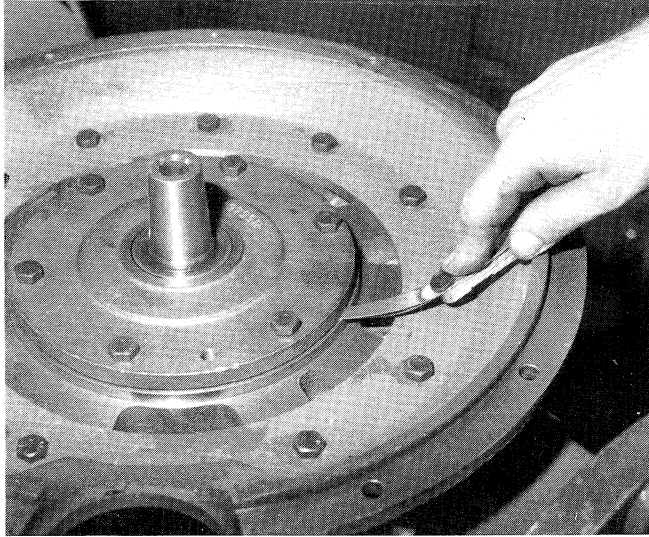

Figure 9-6. Measuring shim space between support and housing.
1. Measure with a taper gauge the space between the bearing support (7) and main housing (Figure 12-1, 8). See Figure 9-6.